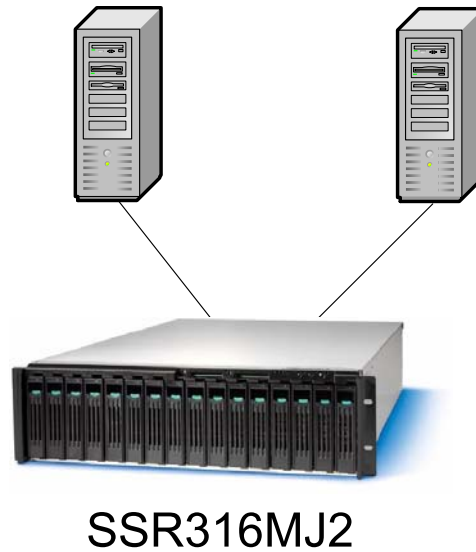

Figure 3. FibreChannel Direct Attach
- B. Configure the SSR316MJ2 system to one or multiple Server Clients as shown below. See Figure 3.